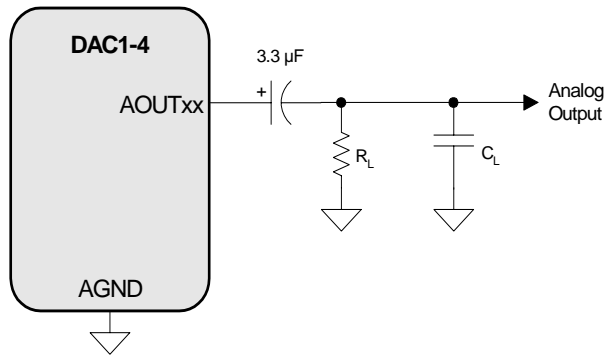

Figure 2. Output Test Circuit for Maximum Load
- Guaranteed by design. See Figure 2. R_L and C_L reflect the recommended minimum resistance and maximum capacitance required for the internal op-amp's stability and signal integrity. In this circuit topology, C_L will effectively move the dominant pole of the two-pole amp in the output stage. Increasing this value beyond the recommended 100 pF can cause the internal op-amp to become unstable. See "External Filters" on page 51 for a recommended output filter.